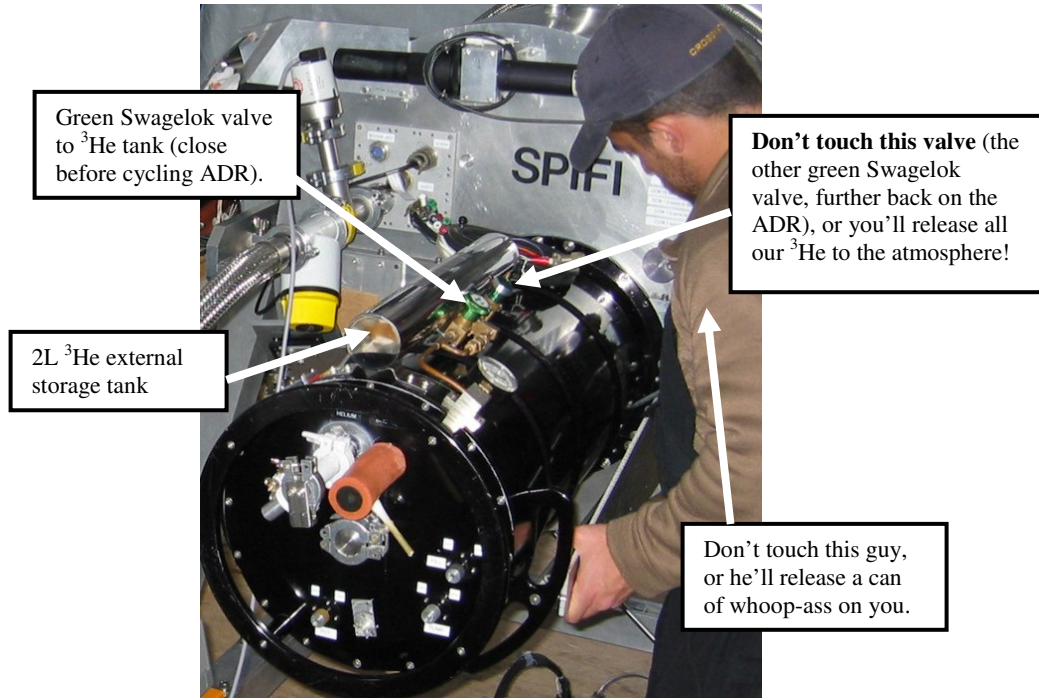

Figure 5: Swagelok Valve to ADR ^3He tank
17. Either during or after you have pumped down the ADR 1-⁴He tank you will need to close the green Swagelok valve on the side of the ADR to seal off the ³He tank. This is the first green-colored valve handle on the “top right” of the ADR, as viewed when looking in through the pillbox doors (see Figure 5 below). This must be closed before cycling the ADR. **Don't touch the other green Swagelok valve (further back on the ADR) or you will release all our ³He to the atmosphere!**